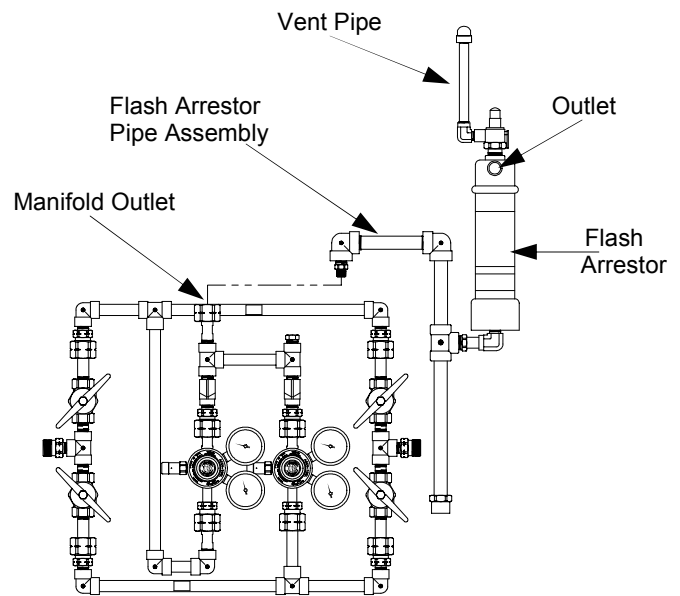

Figure 8
2. Secure the flash arrestor pipe assembly to the manifold outlet. (Figure 8)